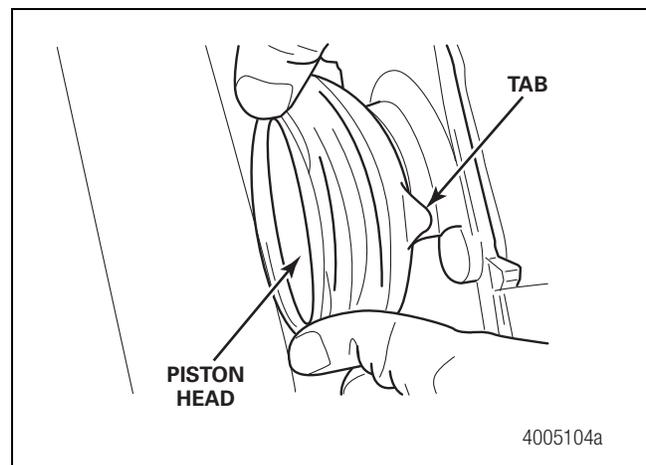

Figure 5.13
- Carefully install a new piston boot over a piston head. The larger seal diameter with the tab goes over the piston head first. Do not install the piston boot bead into the housing assembly retaining groove at this time. Figure 5.13.